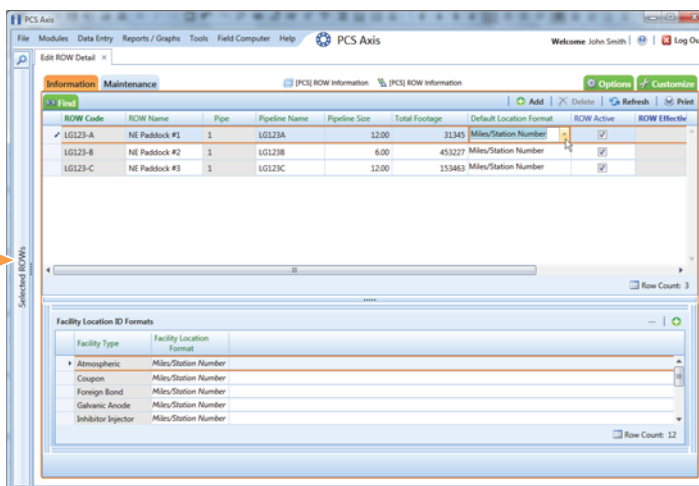

Figure 3-10. Edit ROW Detail
- 3 Click **Data Entry > Edit ROW Detail** to open the *Edit ROW Detail* window (Figure 3-10, page 98).